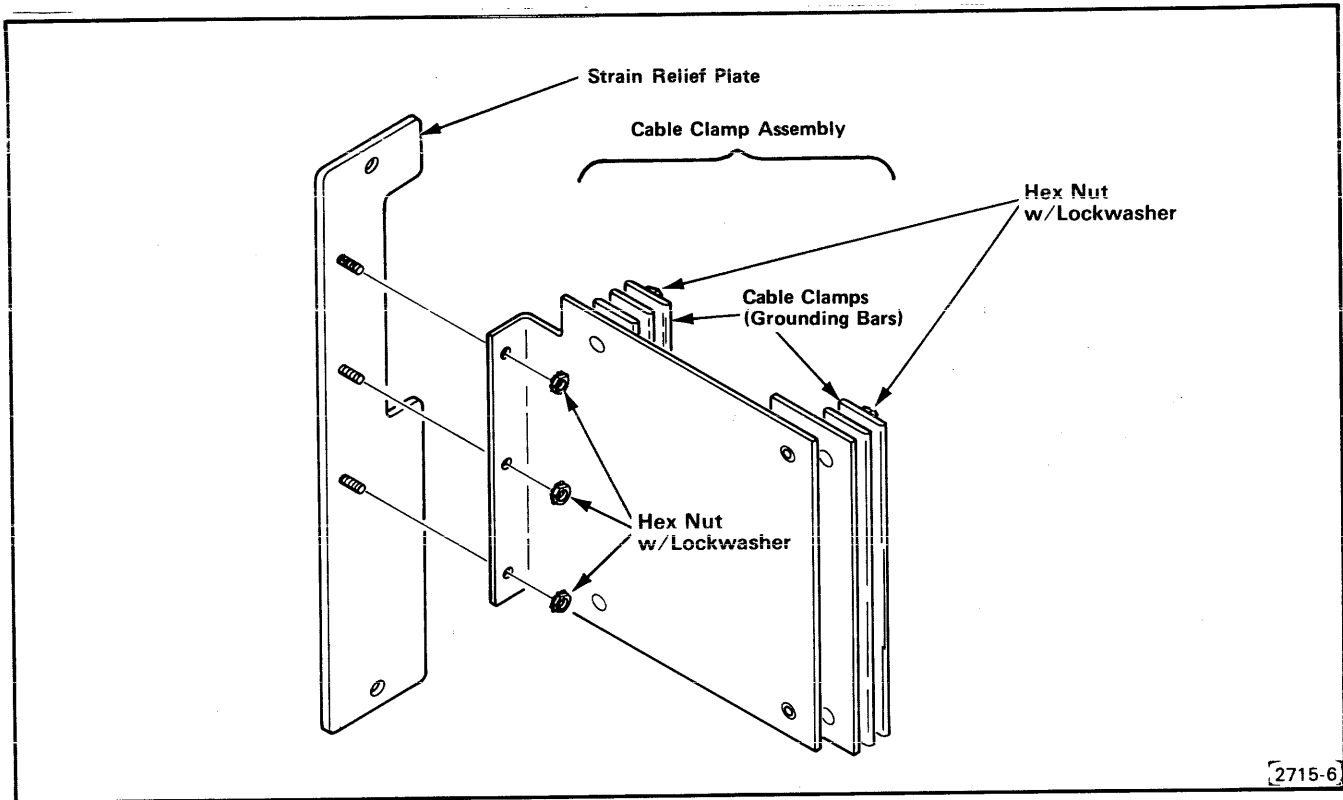

Fig. 3-4. Strain Relief/Cable Clamp Assembly details.
7. Remove the three hex nuts (with lock washers) that attach the cable clamp assembly to the strain relief plate (Fig. 3-4). Set the strain relief plate aside.
16. Attach the strain relief plate to the cable clamp assembly, using the three hex nuts (with lock washers) removed in step 7 (Fig. 3-4).